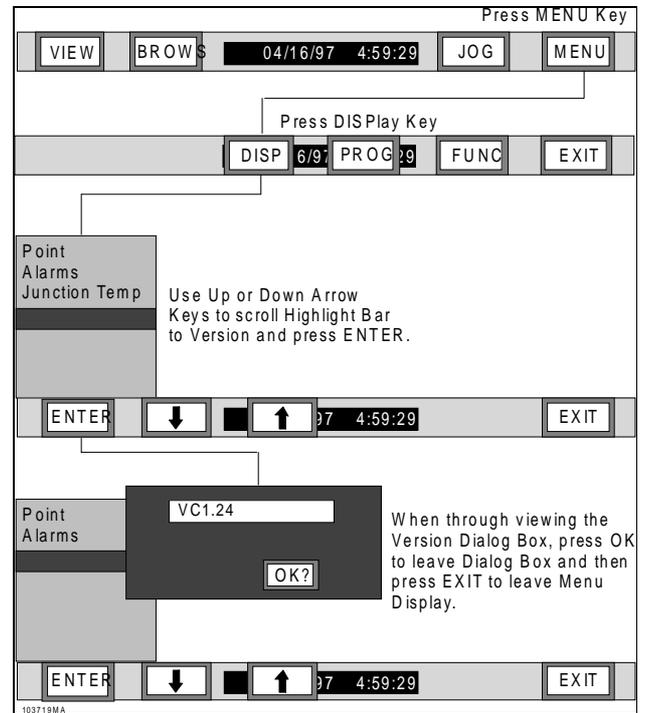

Figure 3-27 Display Version Flow Chart
D. Version - This function of the DISPlays Menu displays the software version number in a pop-up window. To display the version of software in your unit, refer to Figure 3-27 and perform the following steps: